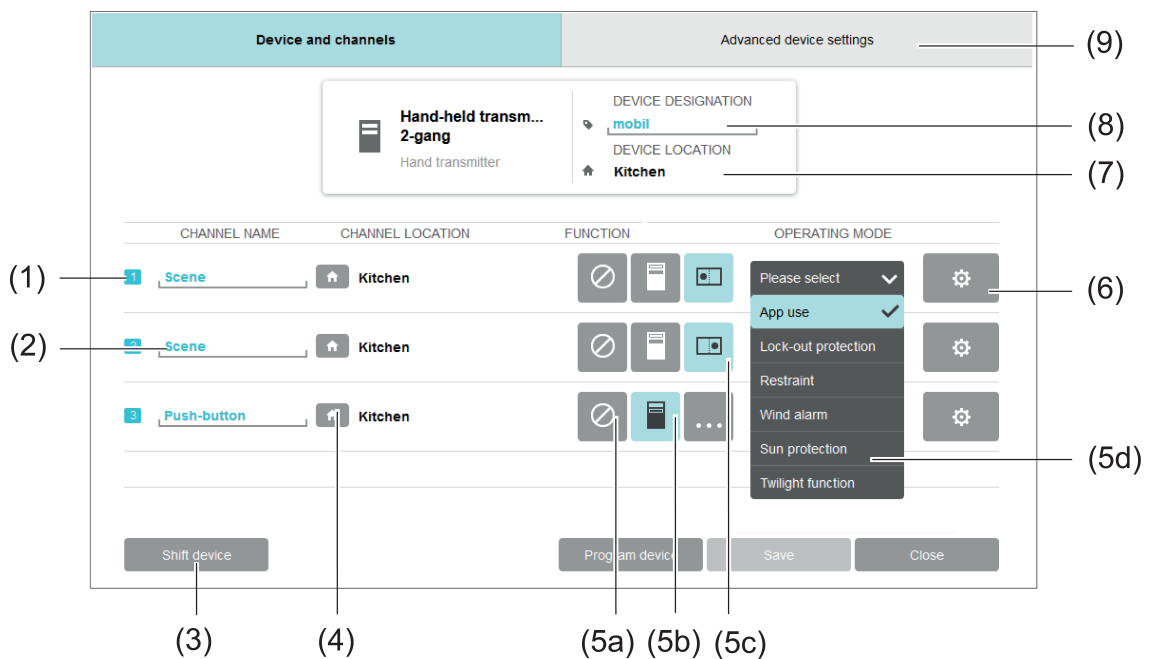

Figure 11: Device settings window - Example of 2x hand-held transmitter
The device settings window opens (Figure 11) and (Figure 12).
- Make the settings and apply them with **Save** or **Close** (Figure 11).
- Select the room from the building structure, in which the device to be added is to be installed (6).
- Select the **Catalogue** tab (1).
- If necessary, select the required manufacturer catalogue using the **Catalogue selection** button (2).
- If necessary, filter the device selection according to sensors, actuators or repeaters (3). The devices of the catalogue are displayed (4).
- Add the device using the **+** button (5) or via drag & drop. The device settings window opens (Figure 11) and (Figure 12).
- Make the settings and apply them with **Save** or **Close** ..(Figure 11) and (Figure 12). The device is added to the selected room.
The window for the device settings is opened on adding a device or via the  button and is explained using an example for a transmitter (Figure 11) and an actuator (Figure 12)